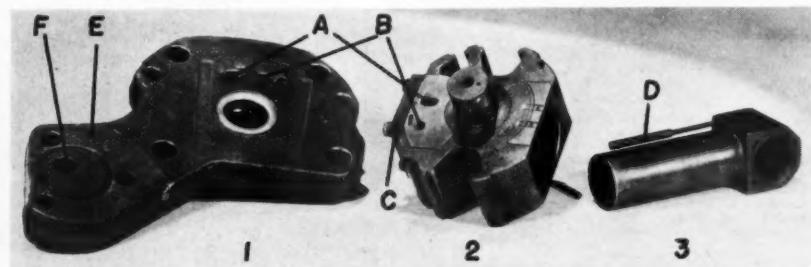

FIG. 4.—THE THREE PRINCIPAL PARTS OF THE COMPRESSOR.
Fig. 4 shows these three parts as they will appear when removed, which permits an explanation of the operation of the compressor. As mentioned before, the cylinder oscillates with the motion of the piston. This oscillating action is utilized to operate sliding valve ports between the valve plate and cylinder block. The suction gas enters at the opening (F) in the valve plate and travels through a connecting opening to the valve port (A). Movement of the cylinder block opens and closes this port at the desired time. A small fitting polished surface between the two prevents any undue leakage of the valve. The discharge valve is of the disc flapper type, and is contained in the cage on the cylinder block shown at (C).